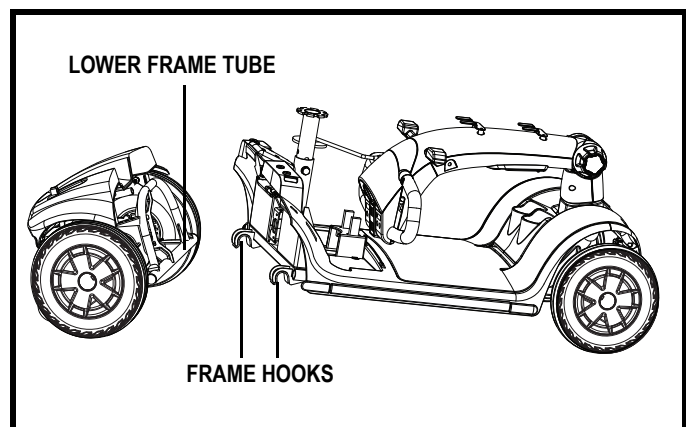

Figure 22. Frame Separation
4. Lift the front section up until the frame hooks of the front section separate from the rear section. **See figure 22.**
5. Slowly separate the two sections. **See figure 22.**
1. Position the front and rear sections of your scooter as shown in **figure 22**.
2. Use the frame release lever to lift the front section as you align the frame hooks of the front section with the lower frame tube of the rear section. **See figure 22.**